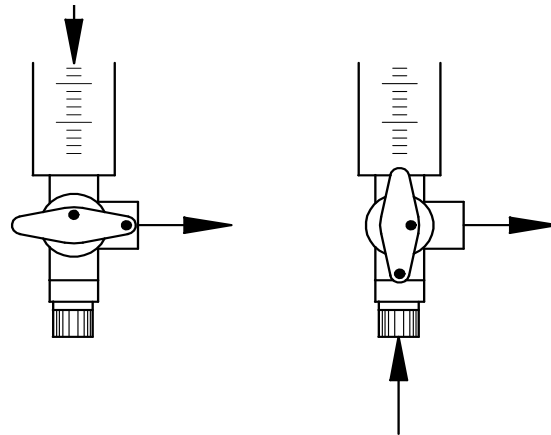

Fig. 7.5.2: Valve positions ball valves
- Adjust the ball valves until the dosing pumps extract water from the calibration cylinders. Please note the red markings on the ball valves (see Fig. 7.5.2).
- Switch the two ball valves to intake from the calibration cylinder (see Fig. 7.5.2).
- Switch the two ball valves to intake from the intake lines (see Fig. 7.5.2).
Immerse the intake lines in the respective chemicals and close the covers of the tanks. Check the position of the ball valves at the calibration cylinders (see Fig. 7.5.2).